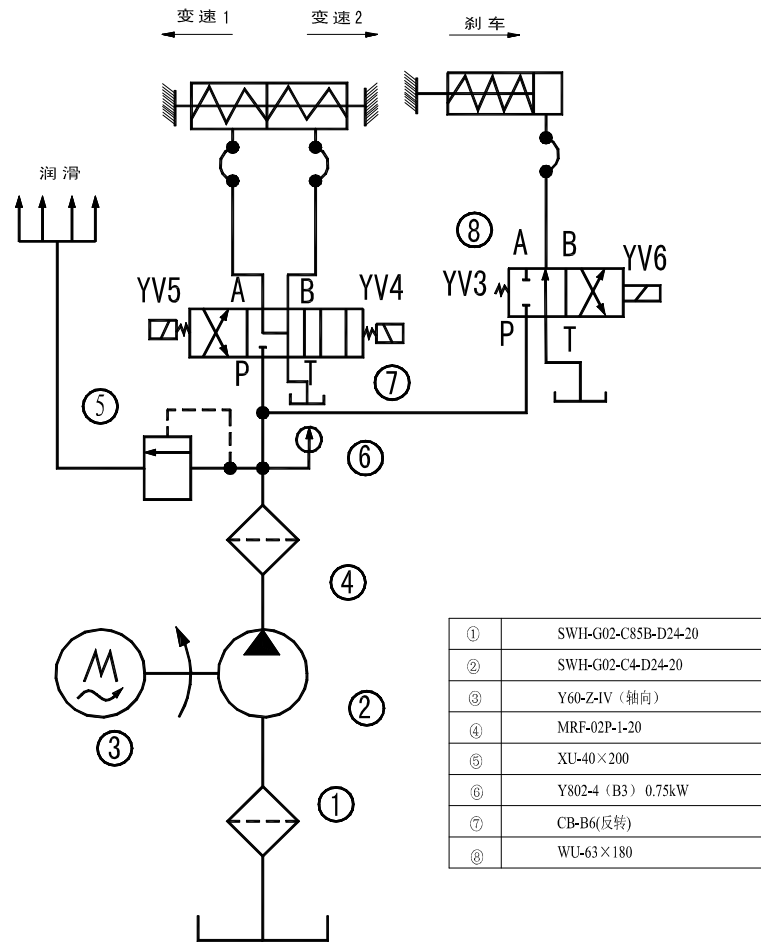

Fig. 7 Hydraulic principle drawing 1
- The hydraulic clutches in headstock have functions of changing speed, braking spindle, lubricating gears and bearings of headstock and locking and of sizing device. Refer to Fig.7 Hydraulic principle drawing 1 for details.